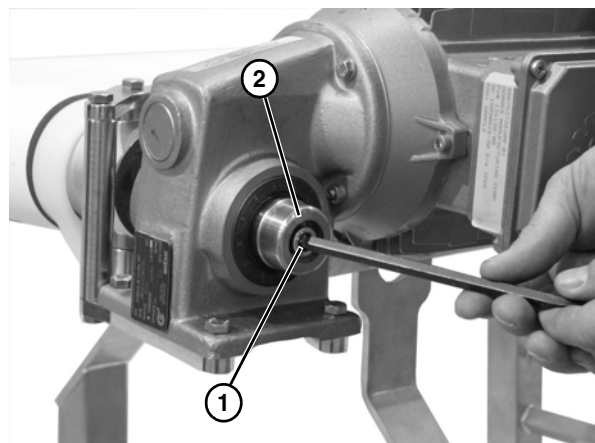

Figure 56
1. Remove the plastic cap on the end of the motor and remove the socket head screw (**Figure 56, item 1**) and the bore plug (**Figure 56, item 2**).